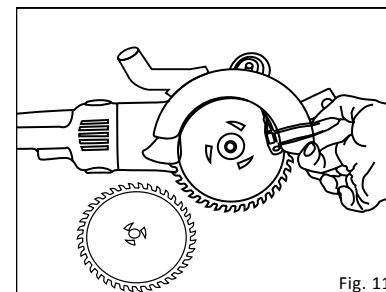

Fig. 11
3. Place "Face B" blade on top of "Face A" blade and fit on inner arbor shaft. (Fig. 11)